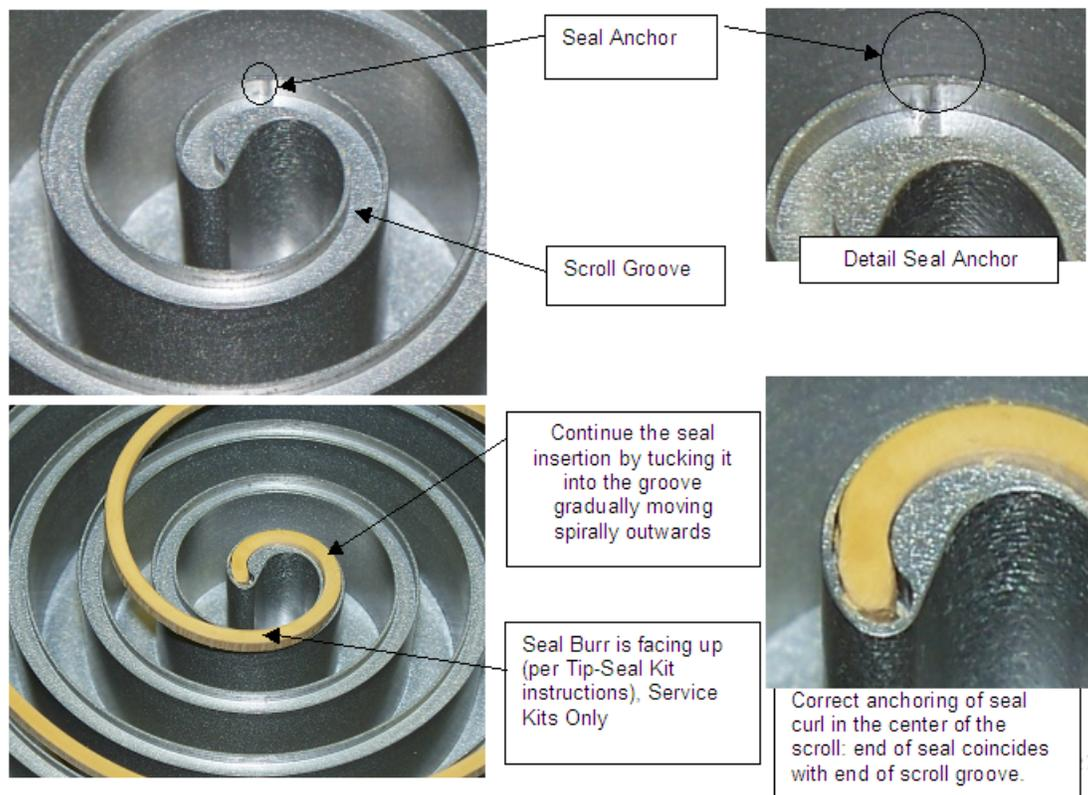

Figure 12 Tip Seal Seating
2. Install the correct tip seal into the groove of the orbiting scroll (item 8) by:
- a. Facing the cutting burrs on the edges of the seal upwards, inserting the tightly curled end into the center of the orbiting scroll, until the seal is well seated in the groove and the anchor inside the groove protrudes into the seal's side (Figure 12). The seal may need to be pushed firmly to sit well into the groove.